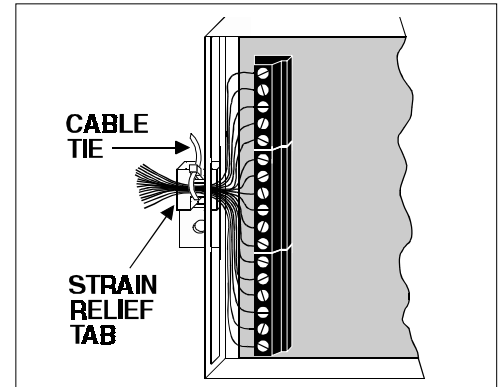

Figure 8: Secure the Cable Tie
3. Wrap the cable tie around the wires and firmly secure the tie to the Strain Relief Tab (see Figure 8).